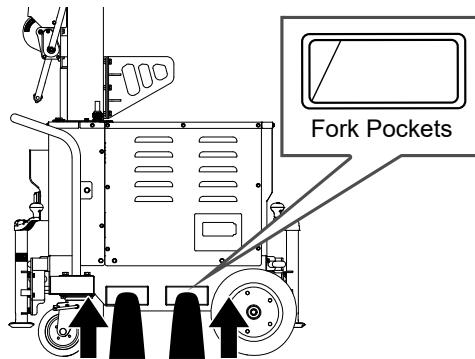

Figure 29. Inserting Forklift Forks
2. Insert the forks fully into the fork pockets (Figure 29).